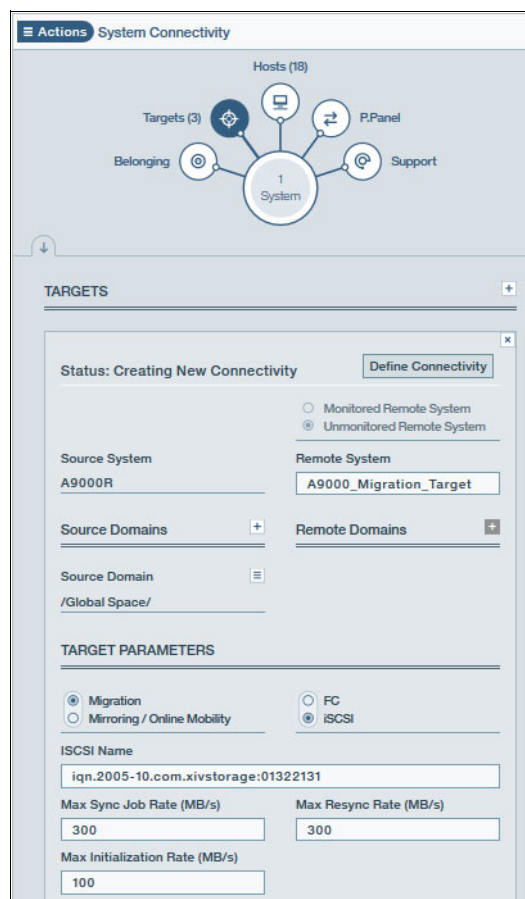

Figure 4-4 Defining a target for migration in IBM FlashSystem A9000R
2. Click **Actions** → **Targets** → **View/Modify Targets** and click the icon to add a target, as shown in Figure 4-4.